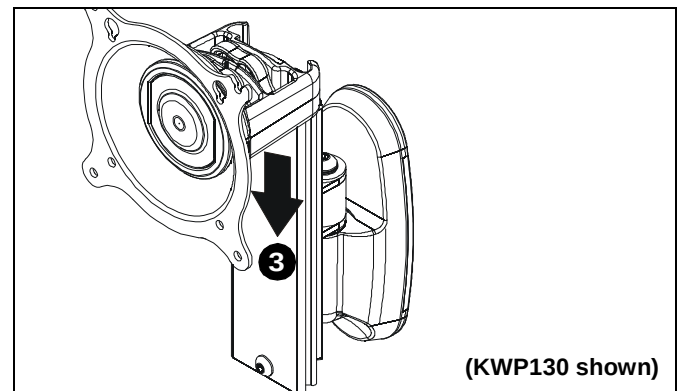

Figure 5
3. Slide one Centris bracket (B) over array (A1). (See Figure 5)